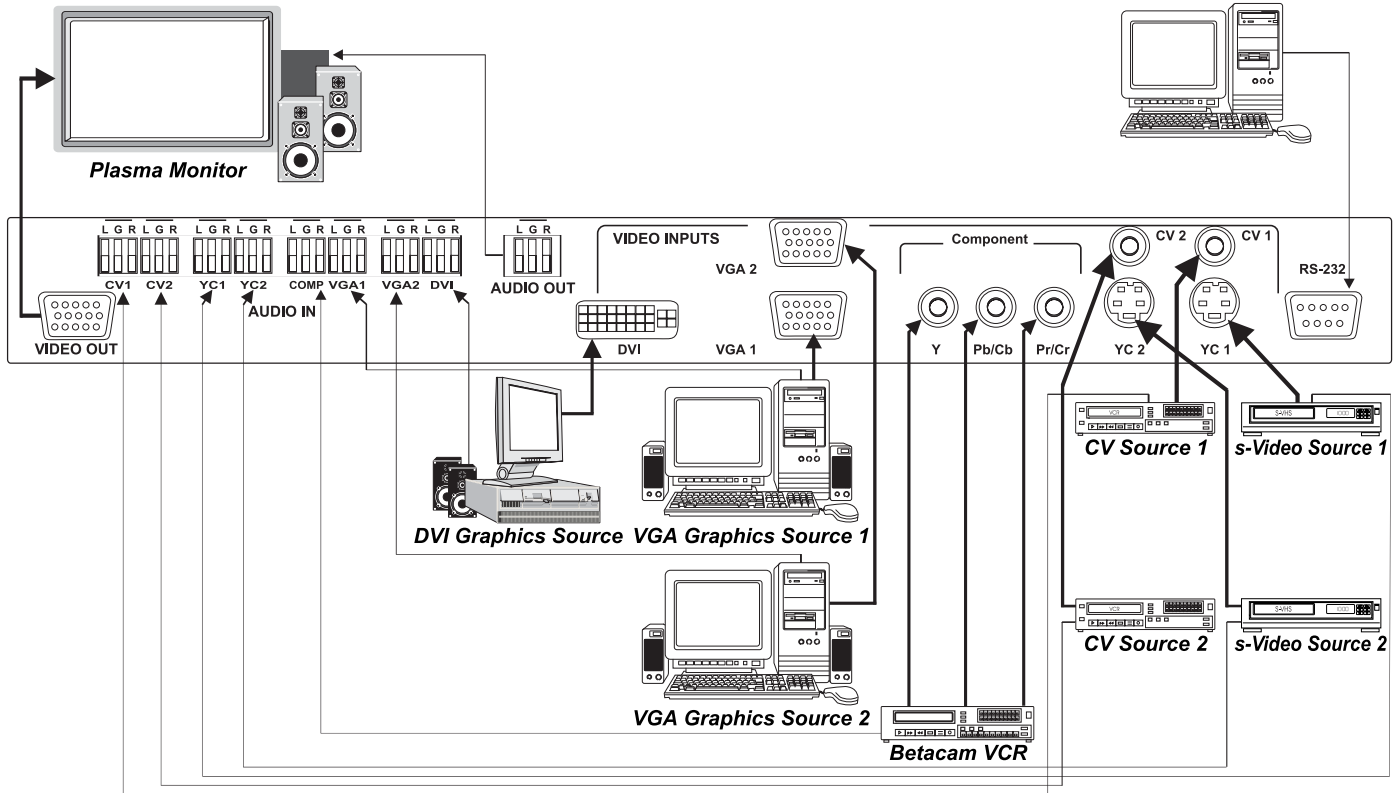

Figure 3: Connecting the VP-724DS Rear Panel
To connect the **VP-724DS**, connect the following³ to the rear panel, as the example in Figure 3 illustrates:
2. Connect the stereo audio sources, as illustrated in Figure 3. In particular:
5 Alternatively, you can connect an RGB signal (not shown in Figure 3), as follows: RED to the “Y” connector, GREEN to the “Pb/Cb” connector, and BLUE to the “Pr/Cr” connector
4. The power cord² (the power connector is not illustrated in Figure 3).